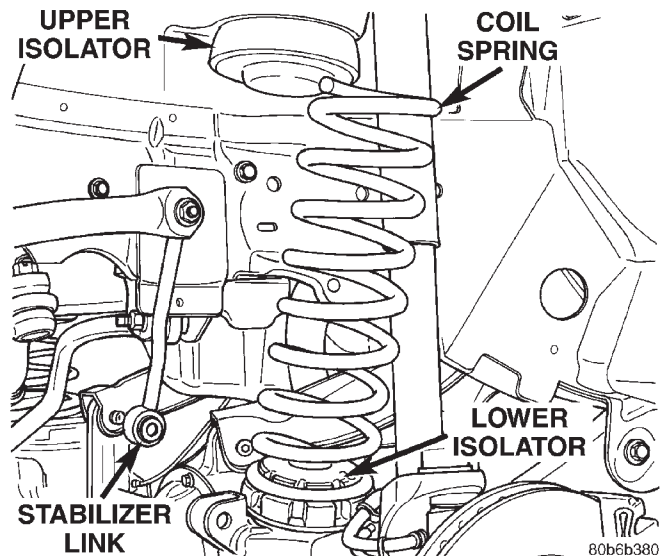

Fig. 4 Front Coil Spring
- (1) Raise and support the vehicle. Position a hydraulic jack under the axle to support it.
- (2) Remove the wheel and tire assemblies.
- (3) Remove stabilizer bar links mounting nuts and bolts from the axle brackets.
- (4) Remove shock absorbers lower mounting nuts from the axle brackets.
- (5) Remove the track bar mounting bolt from the axle bracket.
- (6) Lower the axle until the spring is free from the upper mount and isolator (Fig. 4).